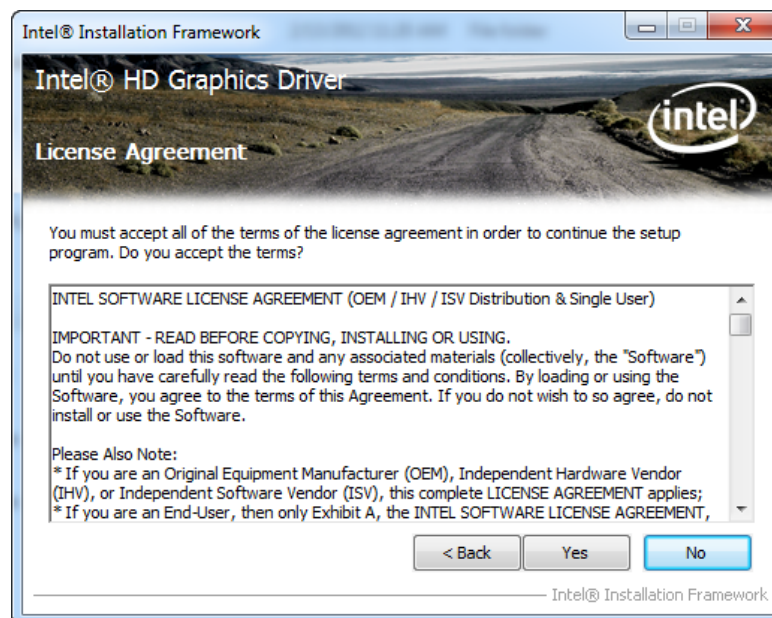

Figure 6-11: Graphics Driver License Agreement
Step 10: The **License Agreement** in Figure 6-11 appears.